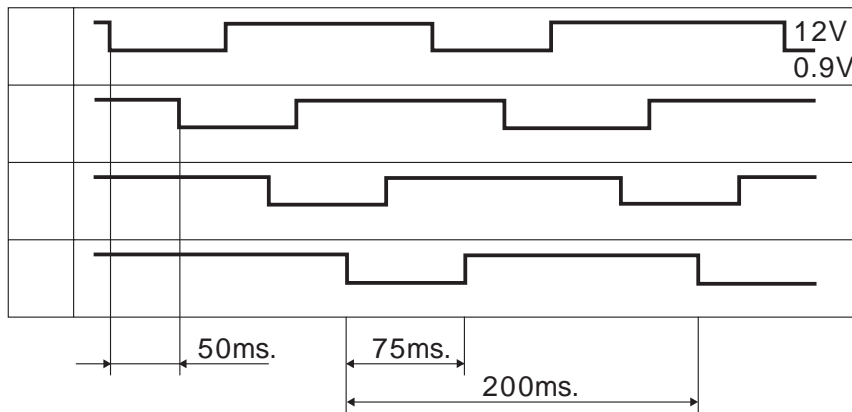

Fig.7-2
- The logic waveform during the operating of the expansion valve is shown in Fig. 7-2.